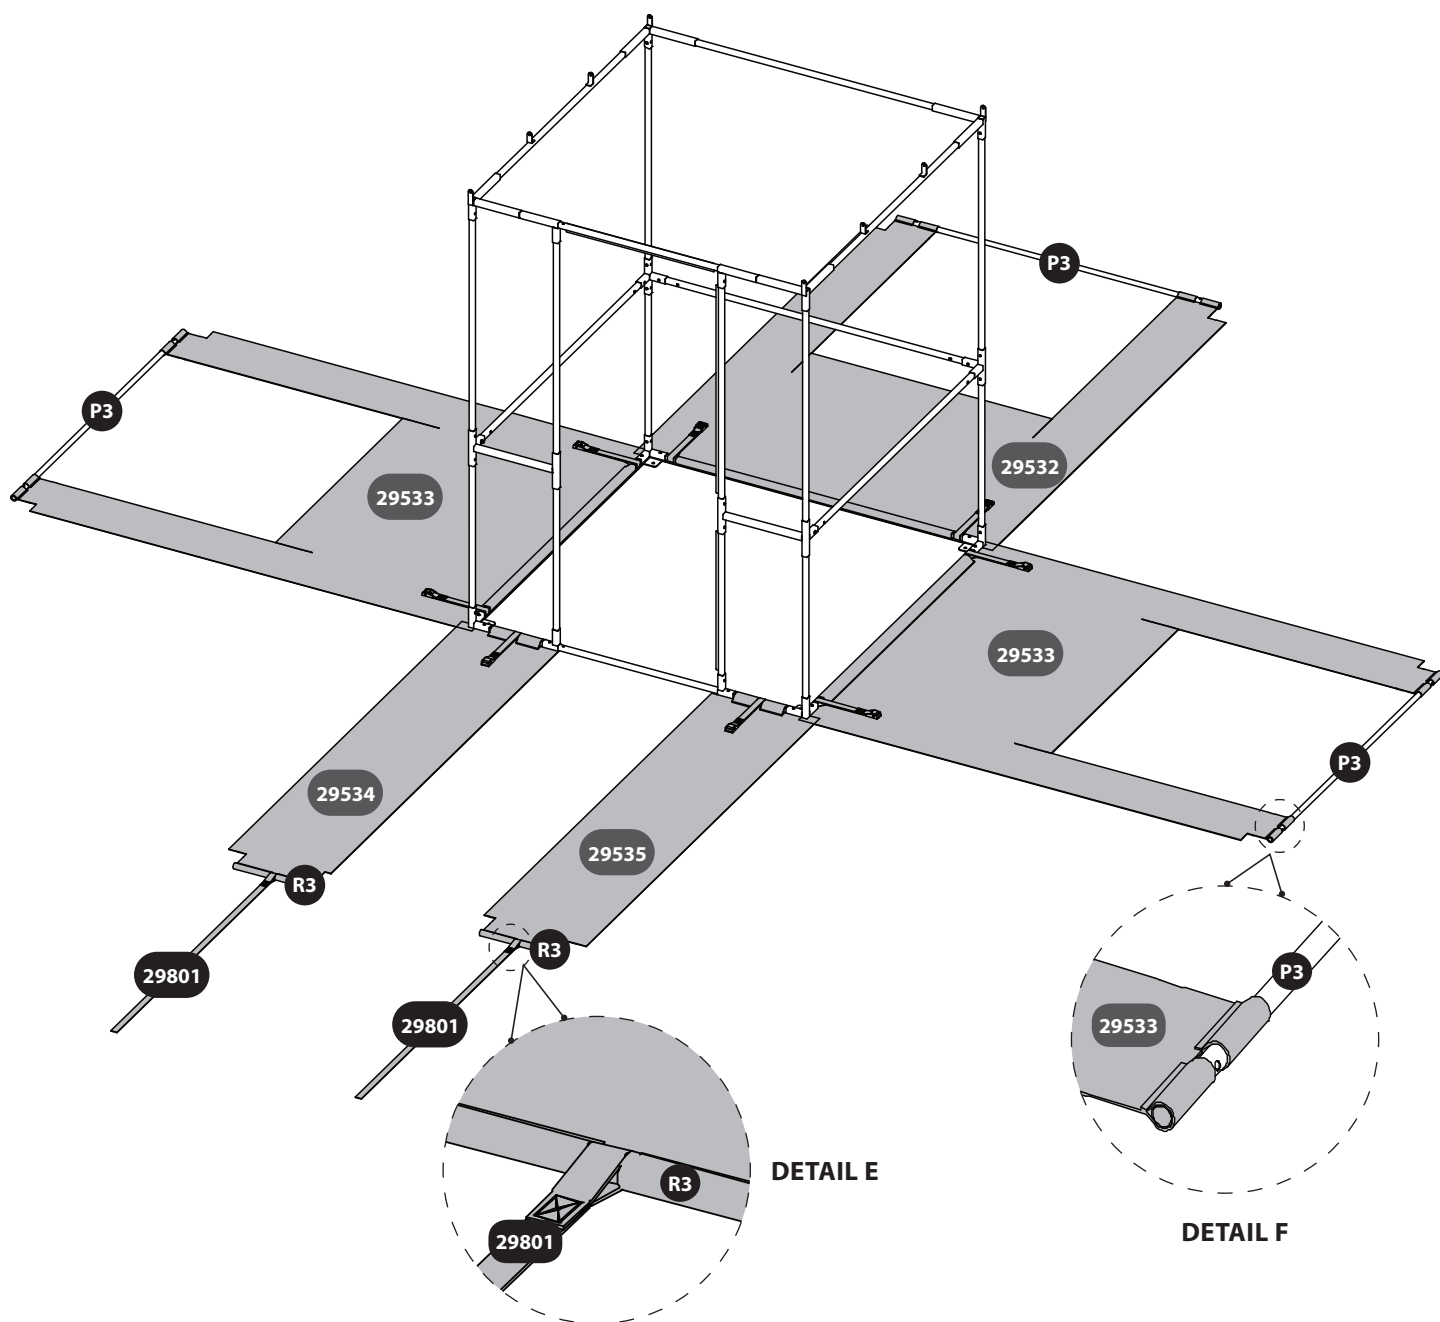

FIGURE 7
13. Slide two (R3) poles into the top sleeves of front wall panels (29534) and (29535) being sure to only slide one sleeve onto the pole before sliding on a long loop end of strap (29801) followed by the other end of the sleeve. **SEE DETAIL E.** Slide the three (P3) poles into top sleeves of three remaining wall panels: both sides (29533) and back (29532). **SEE FIGURE 7 AND DETAIL F.**